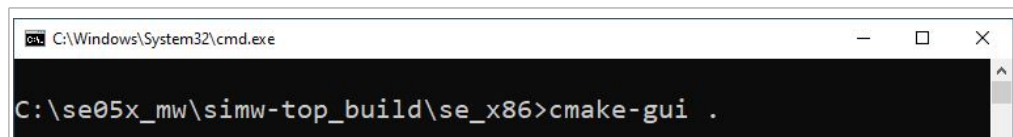

Figure 15. Open the CMake configuration interface
2. Open the CMake configuration menu as shown in Figure 15 and ensure that all the flags are set properly for your use case.